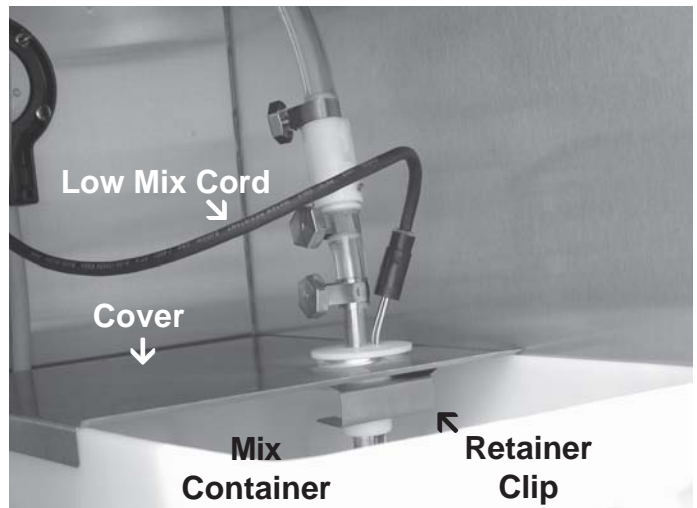

Figure 9. Mix Inlet Tube & Probe Assy. Clip
- B. Connect 1/2 inch (12,7mm) I.D. plastic food grade tubing to check valve and then to the mix container. Observe check valve flow arrow. Secure with hose clamps. Then place assembly thru hole in cover and install retainer clip. Figure 9.
- C. Connect 1/2 inch (12,7mm) I.D. plastic food grade tubing between the large port of air/mix tee and refrigerated mix transfer line. Secure with large hose clamp or equivalent. Figure 9.